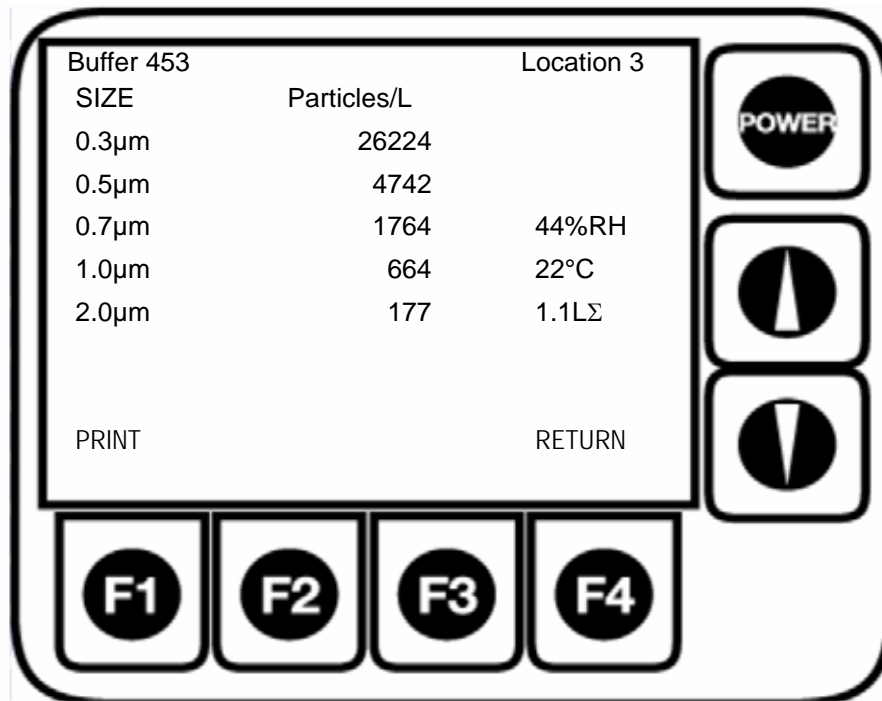

Fig 3-2 : Buffer Review Screen
- 2) The first time the buffer review screen is entered the last record stored in the buffer will be displayed like the example shown in Figure 3-2.